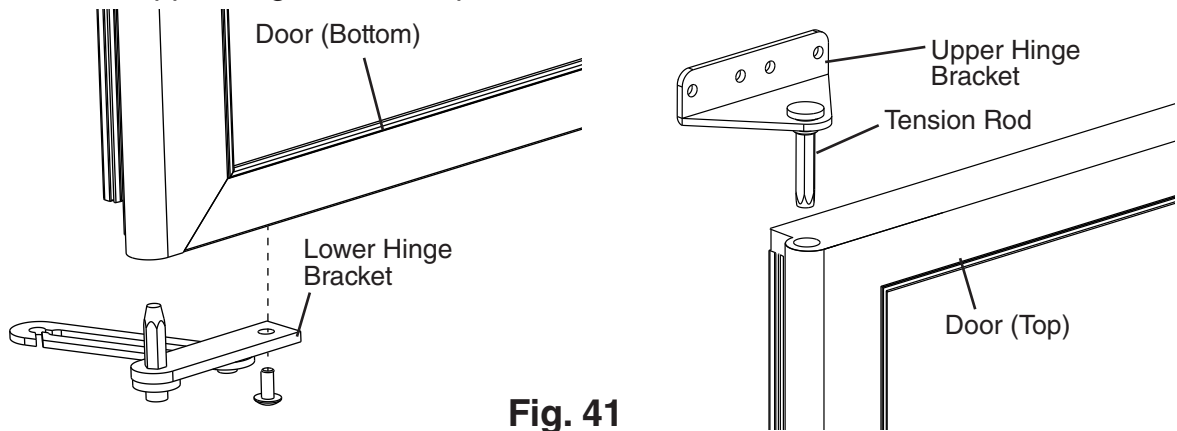

Fig. 41
- 15) Rotate the door 180 degrees and place the lower hinge in its new position and secure. See Fig. 41.